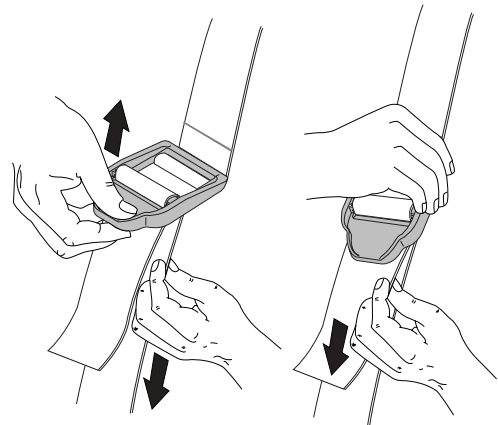

Fig. 8
4. While standing in the operating position adjust the length to fit the operator's size. Pull the tab to lengthen, pull the strap to shorten (Fig 8).